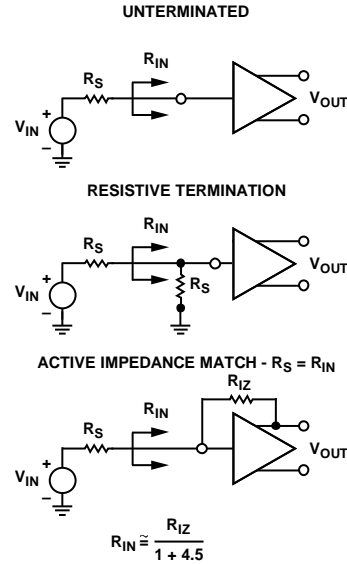
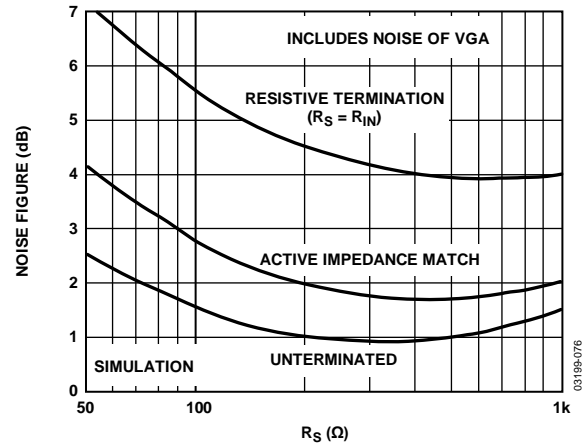
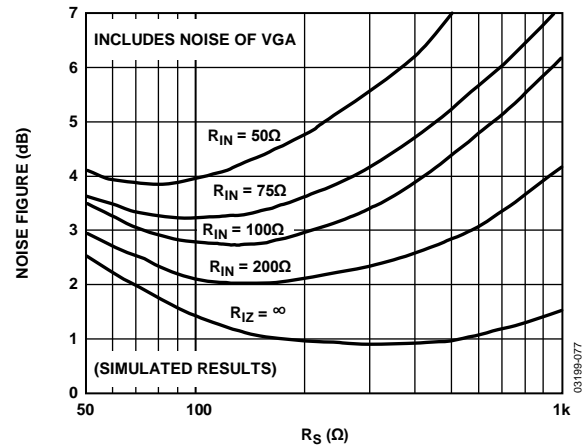

Figure 75. Input Configurations
Figure 76. Noise Figure vs.  $R_S$  for Resistive, Active Match, and Unterminated Inputs
Figure 77. Noise Figure vs.  $R_S$  for Various Fixed Values of  $R_{IN}$ , Actively Matched
The input-referred voltage noise sets an important limit on system performance. The short-circuit input voltage noise of the LNA is 0.74 nV/√Hz or 0.82 nV/√Hz (at maximum gain), including the VGA noise. The open circuit, current noise is 2.5 pA/√Hz. These measurements, taken without a feedback resistor, provide the basis for calculating the input noise and noise figure performance of the configurations in Figure 75. Figure 76 and Figure 77 show simulations extracted from these results and the 4.1 dB noise figure (NF) measurement with the input actively matched to a 50 Ω source. Unterminated ( $R_{IZ} = \infty$ ) operation exhibits the lowest equivalent input noise and noise figure. Figure 76 shows the noise figure vs. source resistance, rising at low  $R_S$ , where the LNA voltage noise is large compared to the source noise, and again at high  $R_S$  due to current noise. The VGA input-referred voltage noise of 2.7 nV/√Hz is included in all of the curves.
The primary purpose of input impedance matching is to improve the system transient response. With resistive termination, the input noise increases due to the thermal noise of the matching resistor and the increased contribution of the LNA input voltage noise generator. With active impedance matching, however, the contributions of both are smaller than they would be for resistive termination by a factor of  $1/(1 + \text{LNA Gain})$ . Figure 76 shows their relative NF performance. In this graph, the input impedance is swept with  $R_S$  to preserve the match at each point. The noise figures for a source impedance of  $50\ \Omega$  are 7.1 dB, 4.1 dB, and 2.5 dB, respectively, for the resistive, active, and unterminated configurations. The noise figures for  $200\ \Omega$  are 4.6 dB, 2.0 dB, and 1.0 dB, respectively.
Figure 77 is a plot of NF vs.  $R_S$  for various values of  $R_{IN}$ , which is helpful for design purposes. The plateau in the NF for actively matched inputs mitigates source impedance variations. For comparison purposes, a preamp with a gain of 19 dB and noise spectral density of  $1.0\ \text{nV}/\sqrt{\text{Hz}}$ , combined with a VGA with  $3.75\ \text{nV}/\sqrt{\text{Hz}}$ , yields a noise figure degradation of approximately 1.5 dB (for most input impedances), significantly worse than the AD8331/AD8332/AD8334 performance.